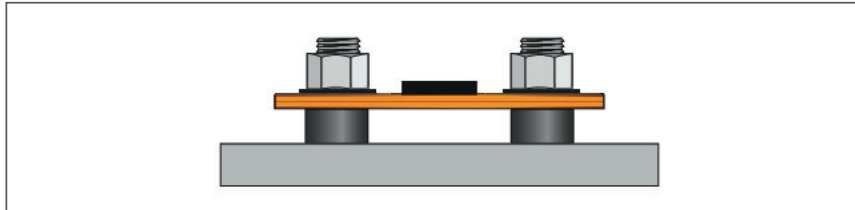
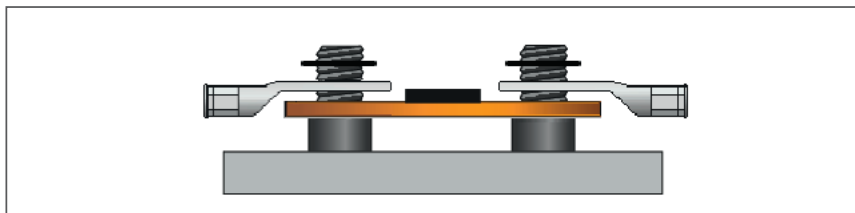
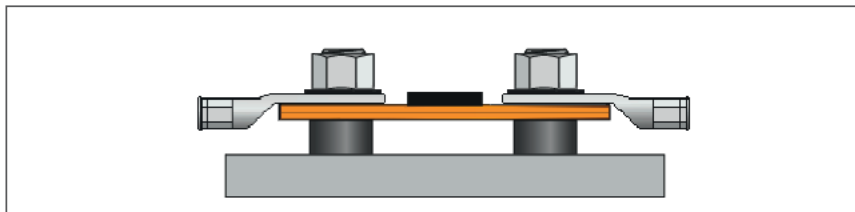

Fig. 5-23: HV BM 1.2+S, shunt module without HV power cables connected to it
Fig. 5-24: HV BM 1.2+S, placing ring terminals and washers on the threaded bolts
Fig. 5-25: HV BM 1.2+S, fastening the ring terminals with the M8 nuts
When mounting the HV power cables on shunt modules as of HW revision C000, the shunt module rests on the spacers regardless of the cross-section of the HV- power cables (Fig. 5-23). The ring terminals are placed on the threaded bolts as shown in Fig. 5-24 and Fig. 5-25 and fastened with M8 nuts plus washers.
- ☞ Place the ring terminals on the threaded bolts as shown in Fig. 5-24.